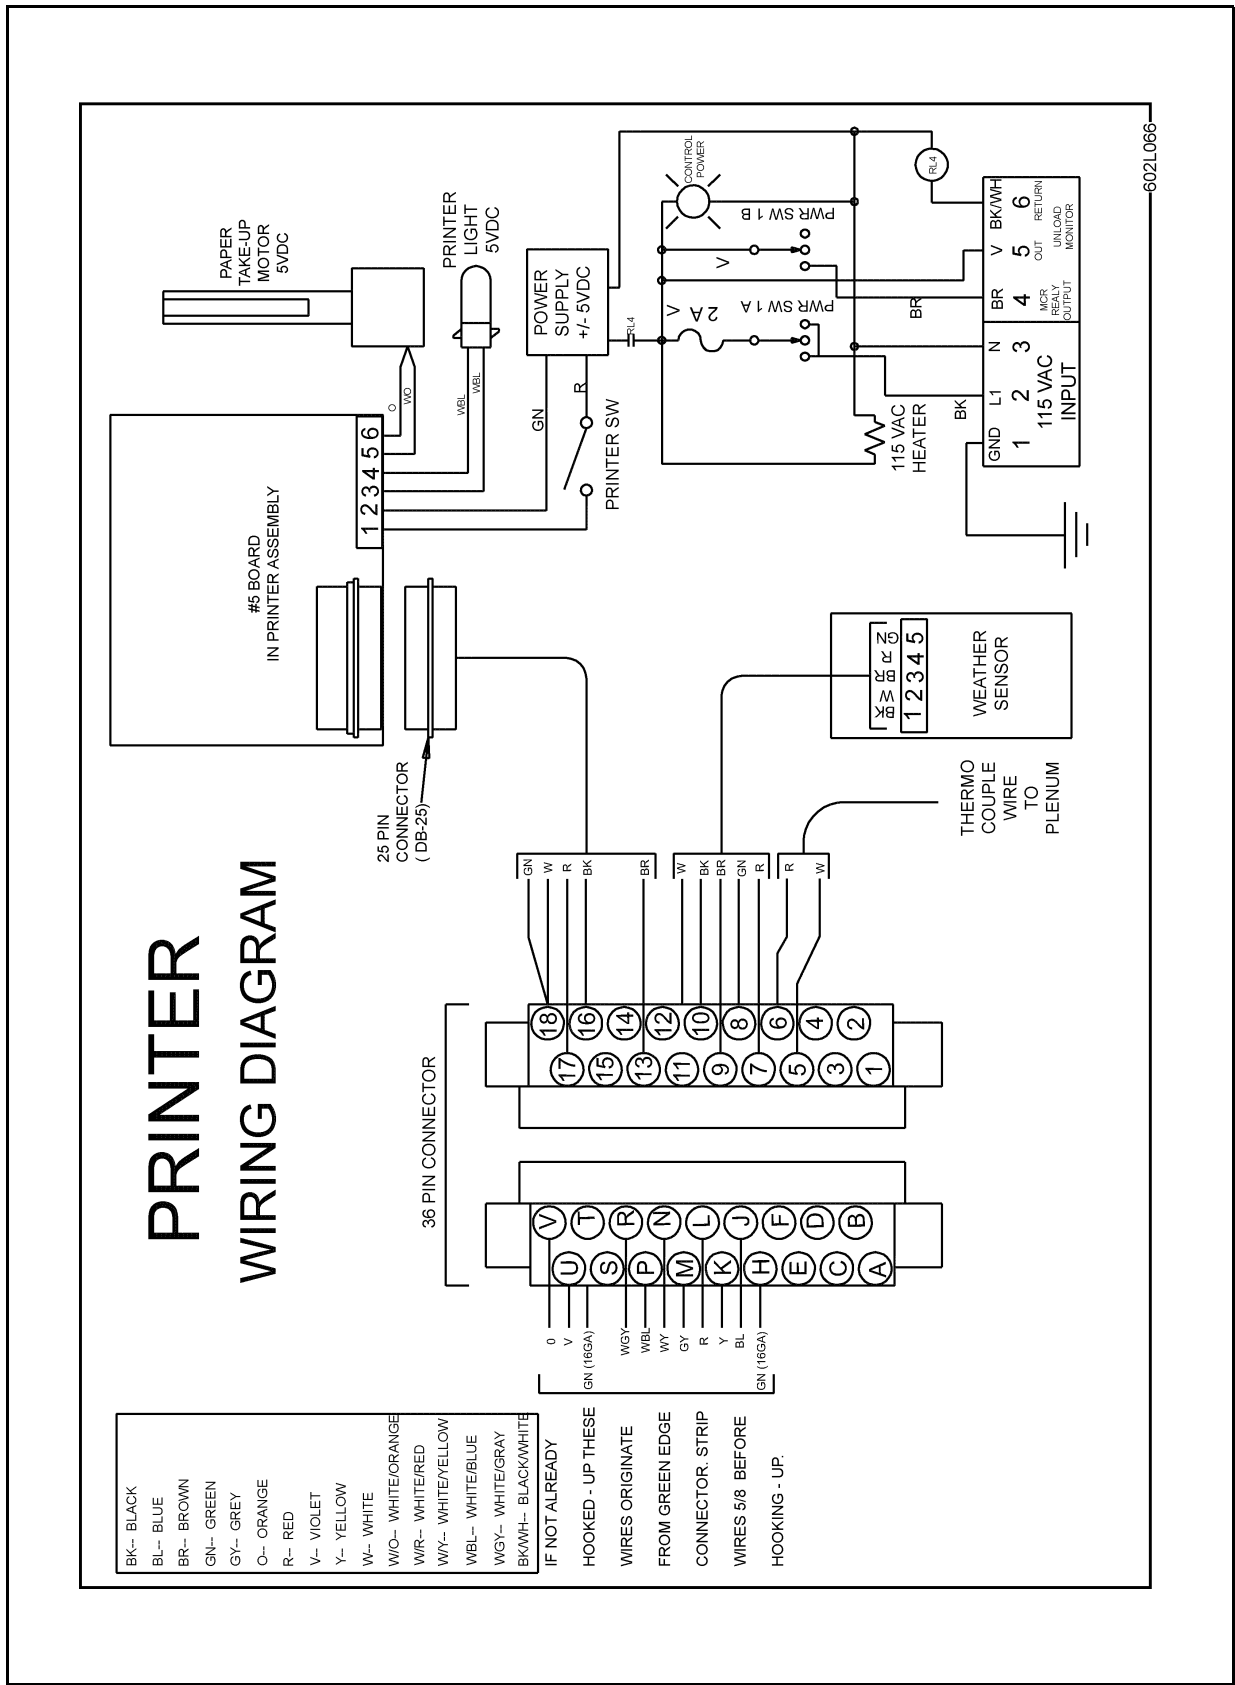

Figure 6A
1. Disconnect all power (AC).
2. Remove the hole cover by removing the six (6) #8-32 screws holding it in.
6. Connect the wires coming from the green card connector to the black card connector (1EL0854). There is a total of 11 wires. Refer to the Decal 602L065 mounted on the Calc-U-Dri door and Figure 6A. Note colors and pin letters. This must be done correctly.
7. Mount the black card connector using two (2) 4 x 40 5/8" bolts, 4 x 40 nuts and star washer. The numbered side of this connector will be visible when mounted correctly.
8. Connect the printer control cable to the black card connector. This cable will have a 25 pin connector on one end. Refer to Figure 6A.
9. Install the five (5) volt power supply using two (2) 8 x 32 x 1/2" bolts. The locations is the upper right of the back panel. The red and green wires will be coming out of the left edge of the supply. Attach the violet and white wires to the two (2) post terminal two (2)" to the left of the supply. Violet on the V terminal and white on the W terminal.
10. Attach the printer to the front panel with the five (5) #8-32 screws and nuts.
13. To mount the plenum thermocouple, cut a hole in the plenum 1-1/4" diameter within fifty (50) feet of the control box. Secure the liquidtight and thermocouple using conduit clamps. Wire the sensor into the back connector pin #5 to white, pin #6 to red. See Figure 6A.
14. To mount the weather sensor, feed the cable through the 1-3/32" diameter hole in the bottom of the control box and secure with the electrical screw bushing. Have the sensor on the outside of the control box. Wire the cable to the black 36 pin connector, pins 7 through 11. (See Figure 6A).
15. Put cable ties approximately every four (4)" to hold all the loose wires and cables in place. Do not tie any of these wires to the AC leads. Cut off the cable tie ends.